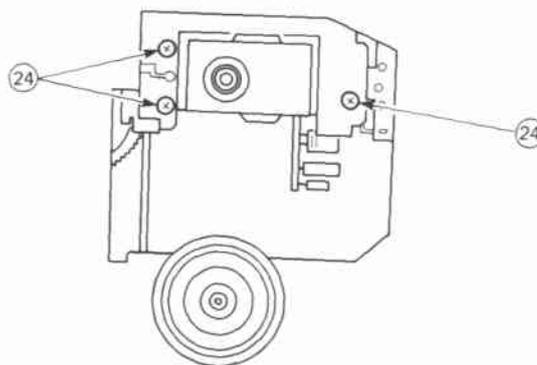

Fig. 15
Remove 3 screws (24) (Fig. 15) and then remove the Pick-up.